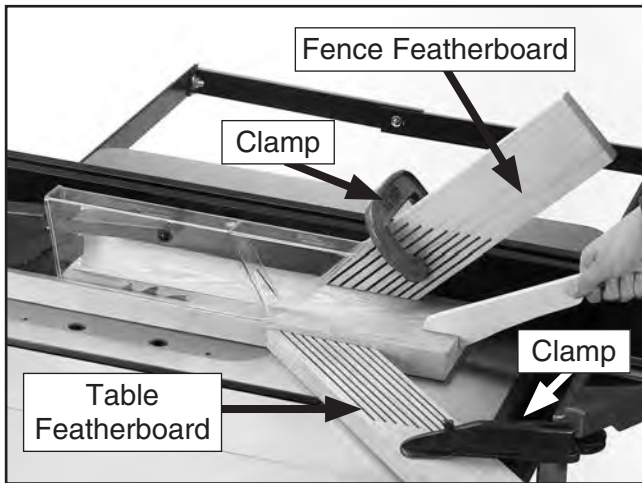

Figure 71. Example of featherboards secured with clamps.
3. Place a featherboard on the table away from the blade so all fingers point forward and contact the workpiece (see **Figure 71**).